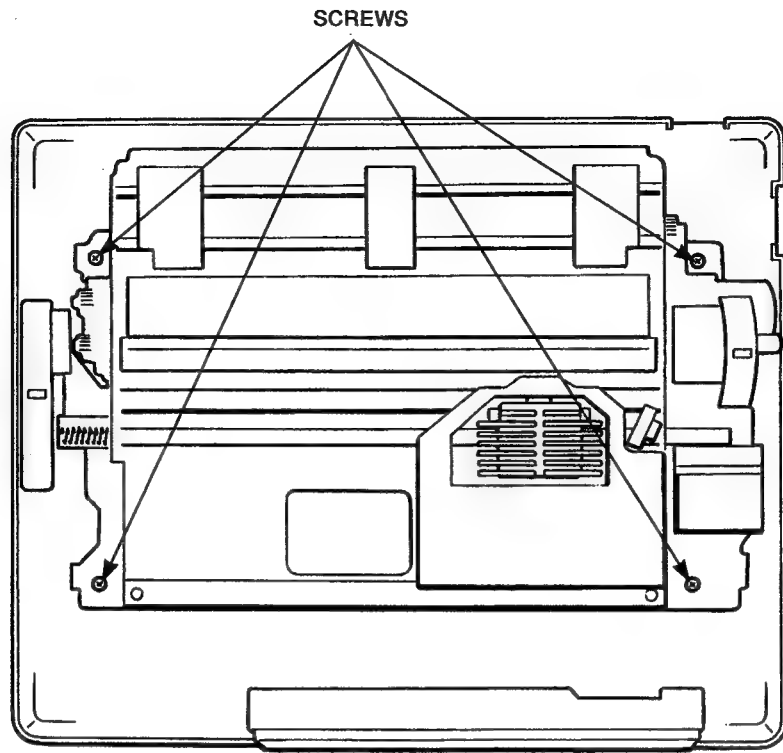

Figure 3-43 Mechanism Assembly Mounting Screws
8. Remove the four screws securing the mechanism assembly (see Figure 3-43).